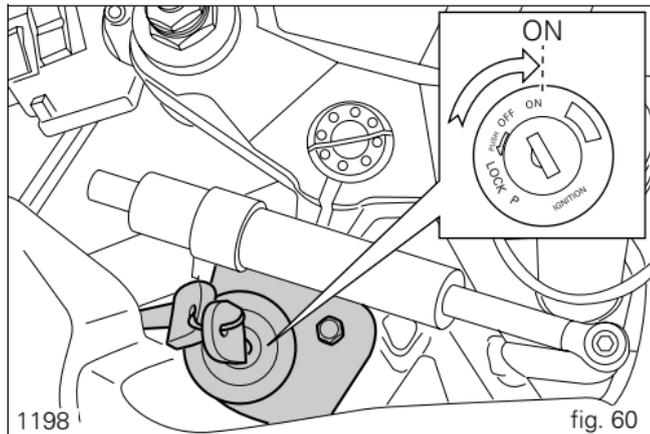
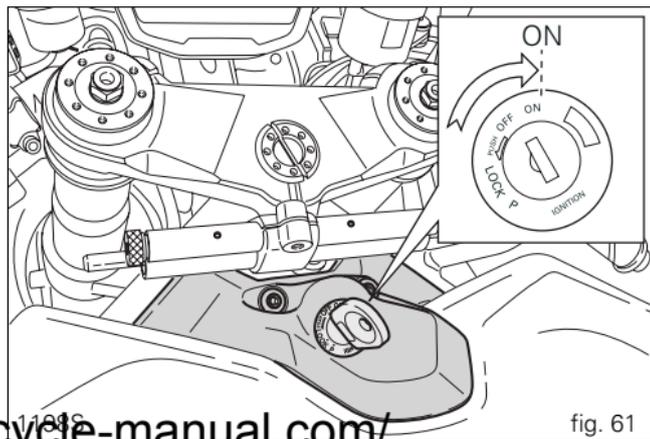

fig. 60
fig. 61
1) Turn the ignition key to ON (fig. 60 and fig. 61). Check that both the green light N and the red light  on the instrument panel come on.